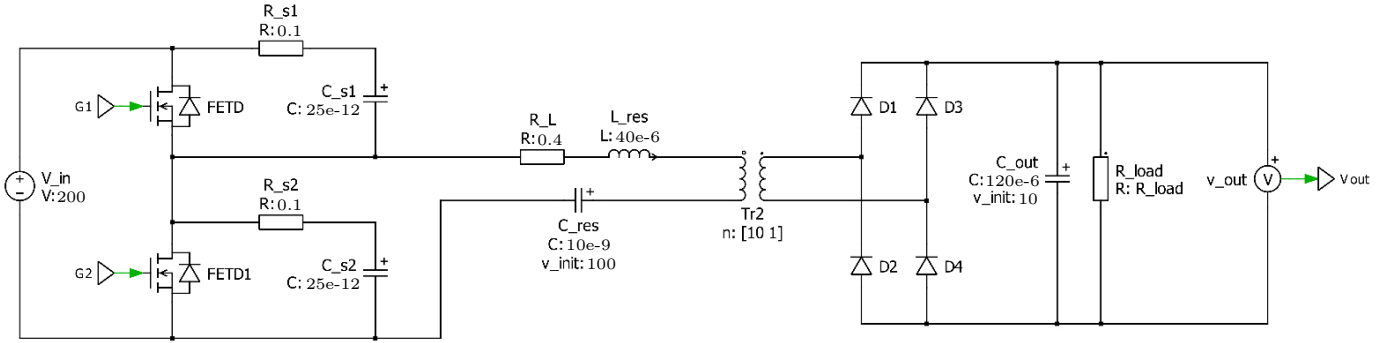

Figure 3: PLECS model of the series resonant converter with capacitive snubbers
**Add snubber capacitors to the MOSFETS as shown in Fig. 3.**